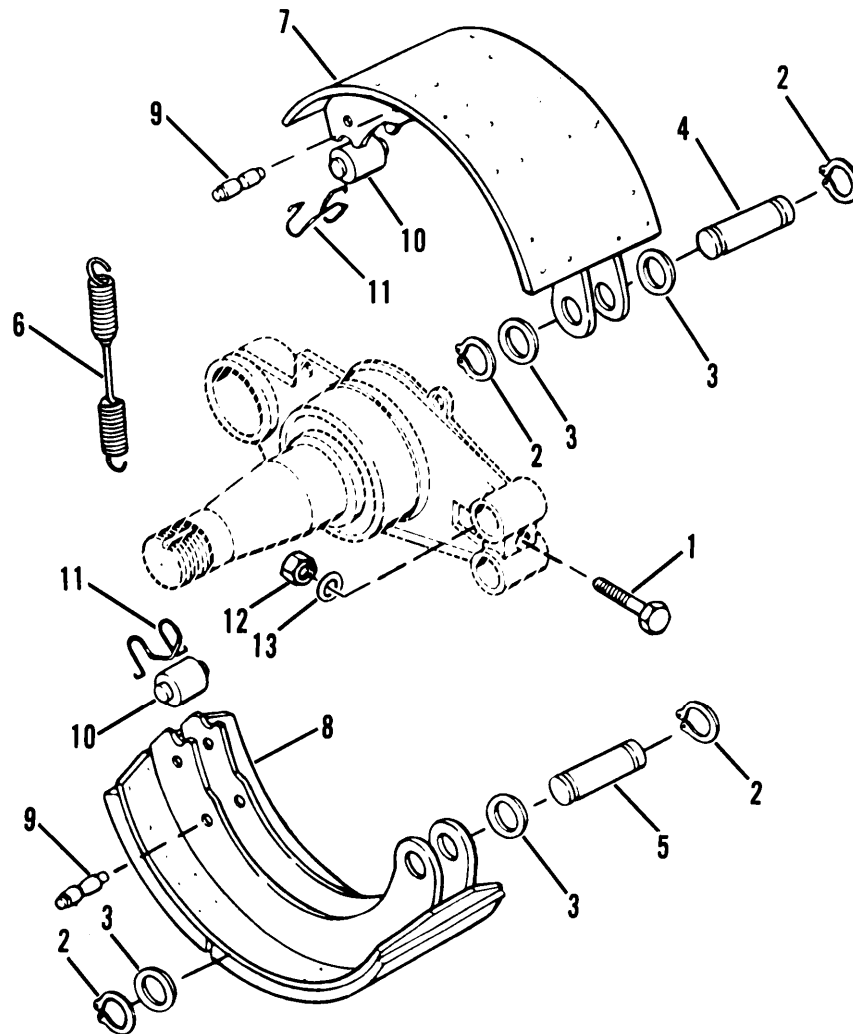

Figure 4-39. Brake Shoes
- (2) Loosen spider bolt (1, fig. 4-39) when working on M871 semitrailer.
- (3) Remove anchor pin retaining rings (2) and anchor pin washers (3).
- (4) Drive out anchor pins (4 and 5).
- (5) Remove spring (6) from upper shoe (7) and lower shoe (8).
- (6) Remove spring pin (9) from both shoes (7 and 8).
- (7) Remove rollers (10) and roller retainers (11).
- (1) Install spider bolt (1, fig. 4-39), washer (13) and spider nut (12). Do not tighten.
- (2) Install rollers (10) and roller retainers (11).
- (3) Place shoes (7 and 8) in position. Install anchor pins (4 and 5).
- (4) Install anchor pin washers (3) and anchor pin retaining rings (2).
- (5) Install spring pins (9) to both shoes (7 and 8).
- (6) Install spring (6).